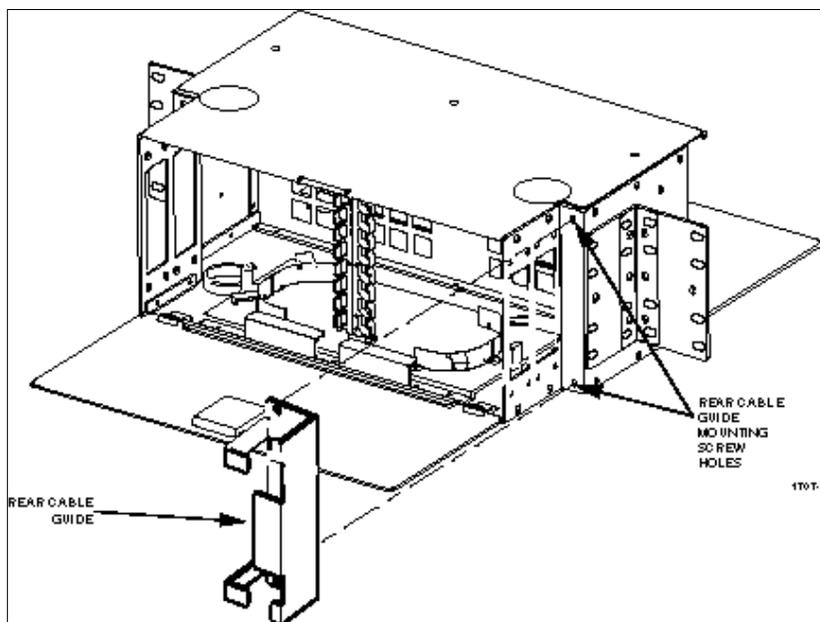

Figure 6-2. Rear Cable Guide
6.3.1 In cross-connect applications, FOT equipment patch cords are routed to the rear of the bulkhead. Patch cord organization and protection is provided by the rear cable guide (figure 6-2). The rear cable guide is attached to the side of the connector panel using two #12-24 screws. FOT equipment patch cords are routed either up or down the back of the frame, into the cable guide and then into the back of the connector panel.